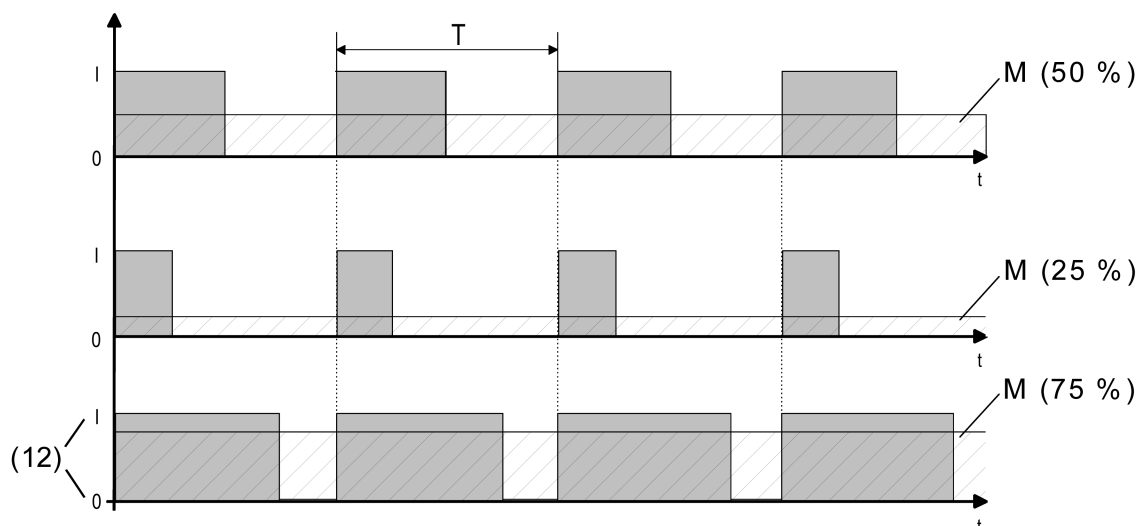

Figure 34: Pulse width modulation of a valve output signal
As soon as that device should set a constant command value or a valve setpoint position value configured in the ETS, it modulates the output signal using the switch-on pulse width. Taking the cycle time (T) settable in the device into account, the average output signal (M) resulting from this modulation is a measure of the centred valve position of the control valve and thus a reference for the set room temperature (Figure 34).